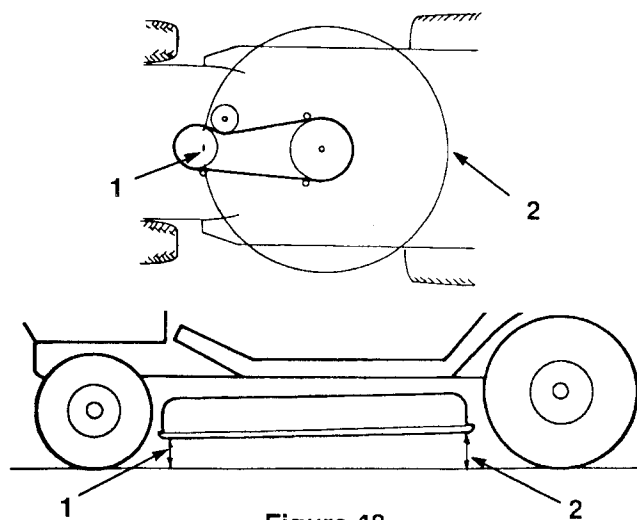

Figure 48
5. Check the front-to-rear blade slope by measuring between the bottom of the mower (front center and rear center) and the flat surface (Fig. 48). If the front of the mower is more than 5/8" (15.875 mm) lower than the rear of the mower, an adjustment is required; refer to steps 6–10.